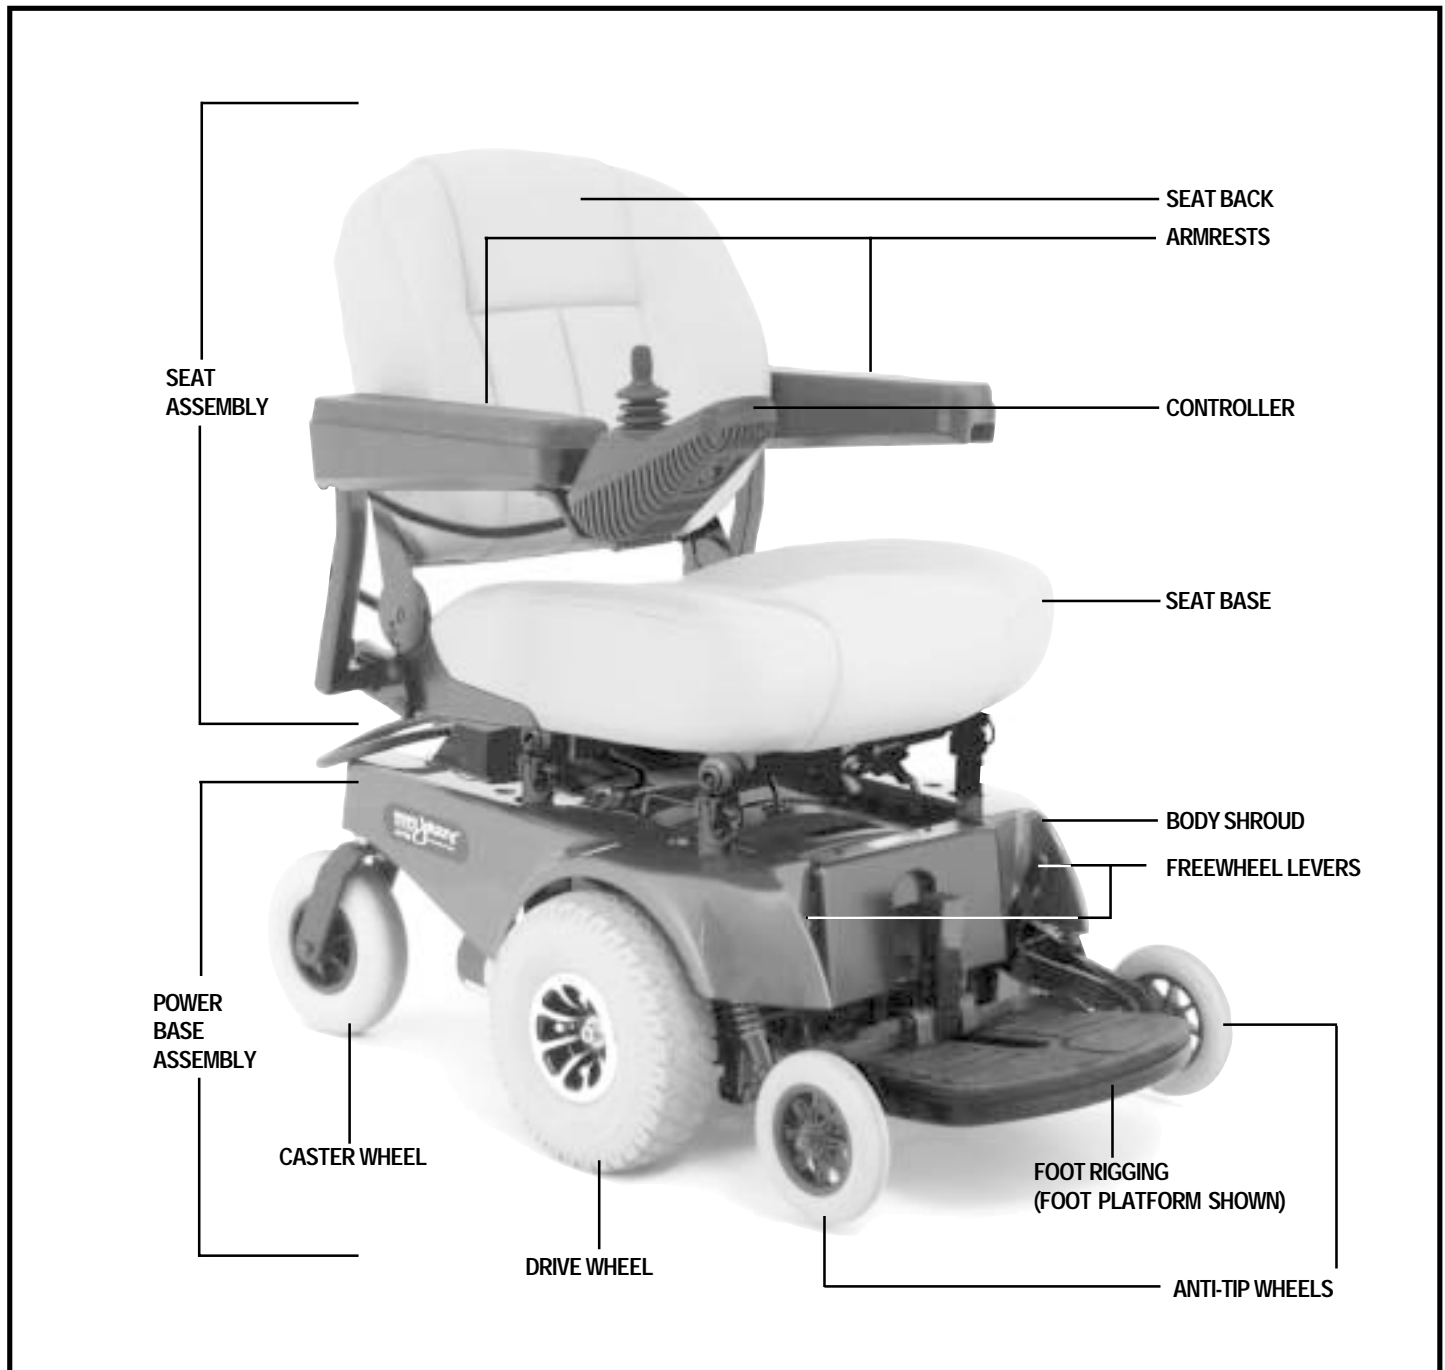

Figure 5. The Jazzy 1113 ATS
Your power chair has two main assemblies: the seat and the power base. See figure 5. Typically, the seating system includes the armrests, the seatback, the seat base, and the joystick/controller. The power base assembly includes two drive wheels, two anti-tip wheels, two rear caster wheels, a body shroud, four frame assemblies (located under the body shroud), two battery boxes, and the electrical connectors. See figures 5, 6, and 7.
1. Locate the manual freewheel levers at the front of the chair. See figure 5.